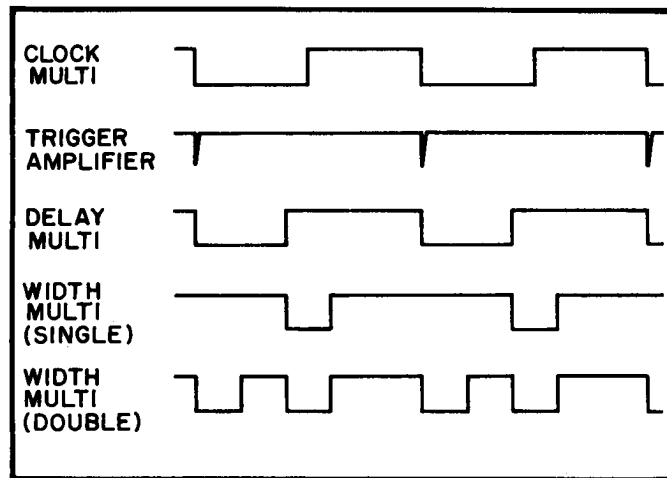

Figure 3-2 Timing Diagram
**b. Clock Multivibrator.** Figure 3-2 shows the relationship of the timing and trigger signals. The Clock Multivibrator is the internal clock for the Model 132A. Repetition rate is determined by the FREQUENCY switch and its associated FINE control. In the externally driven mode, the multivibrator is converted to a trigger circuit which is keyed by a negative signal at the EXT DRIVE INPUT connector or by pressing the SINGLE CYCLE button. Clock Multivibrator output is differentiated and fed to the Gated Amplifier.